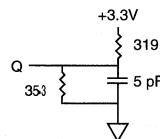

Fig. 2 OUTPUT LOAD EQUIVALENT
6. t^{HZCE} , t^{HZOE} and t^{HZWE} are specified with $CL = 5\text{pF}$ as in Fig. 2. Transition is measured $\pm 500\text{mV}$ from steady state voltage.